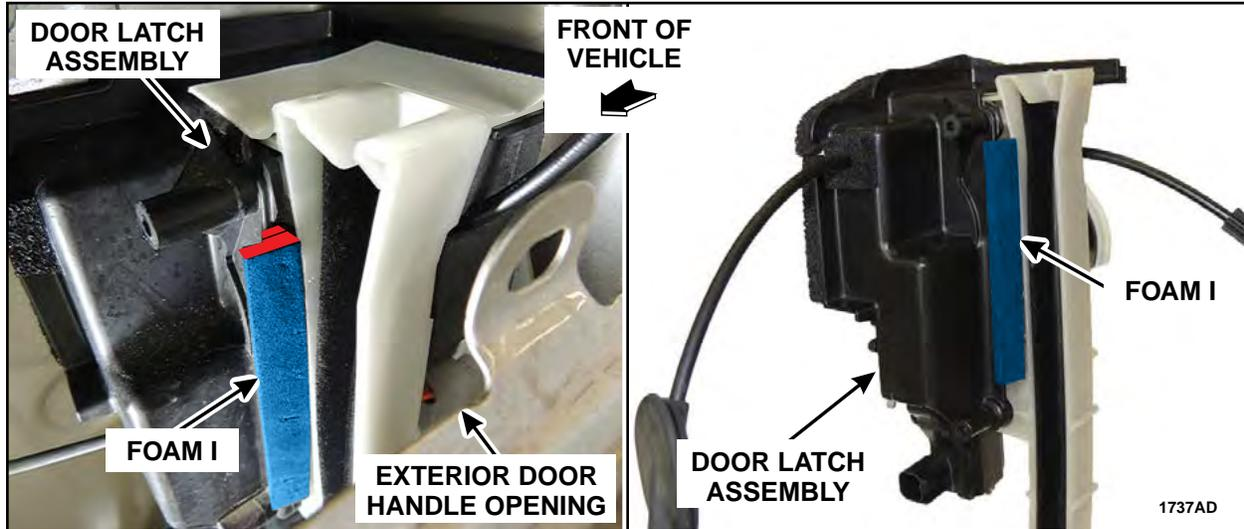

FIGURE 81
5. Install Foam I to cover the gap between the rear door latch assembly water shield and the door glass run. See Figure 81.